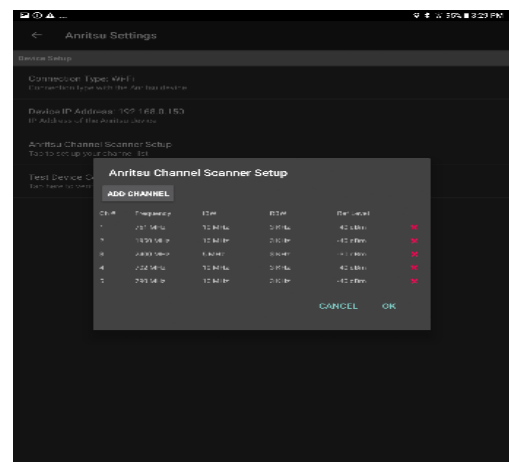

Figure 4: Enter frequencies that need to be scanned
3. Go to Anritsu Setting → Anritsu Channel Scanner Setup. Hit ADD CHANNEL and enter all frequencies of interest by defining frequency, SPAN, RBW, and Ref Level. Click OK to confirm the settings (Figure 4).